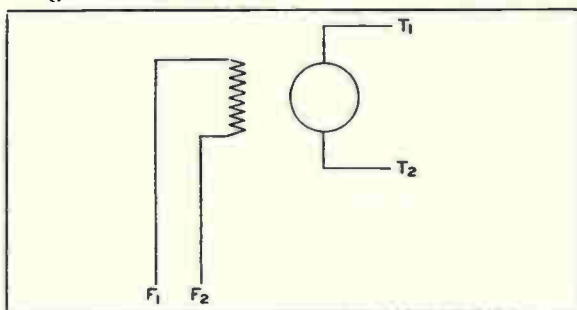

Fig. 14-1
**A-C Generator Terminal Markings.** American Standard terminal markings for single-phase generators are as shown by Fig. 14-1.